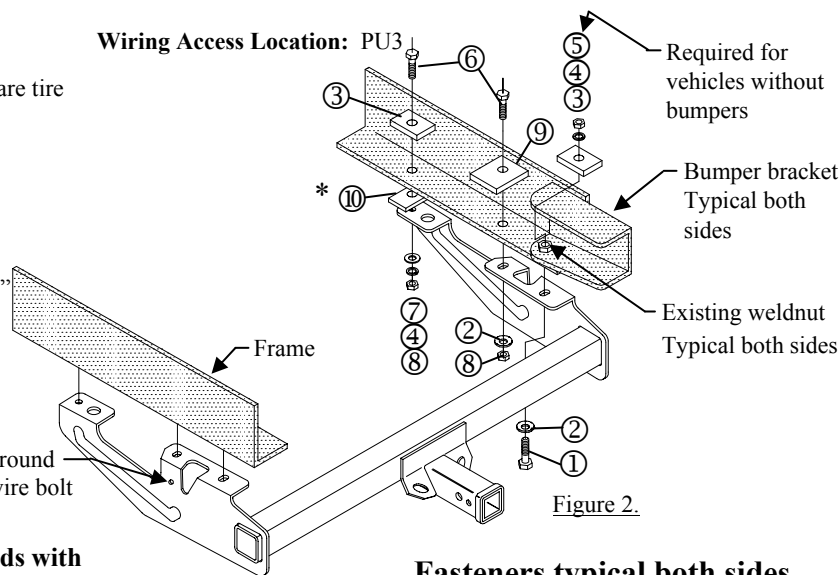

Figure 2.
- Install remaining fasteners as shown in Figure 2.